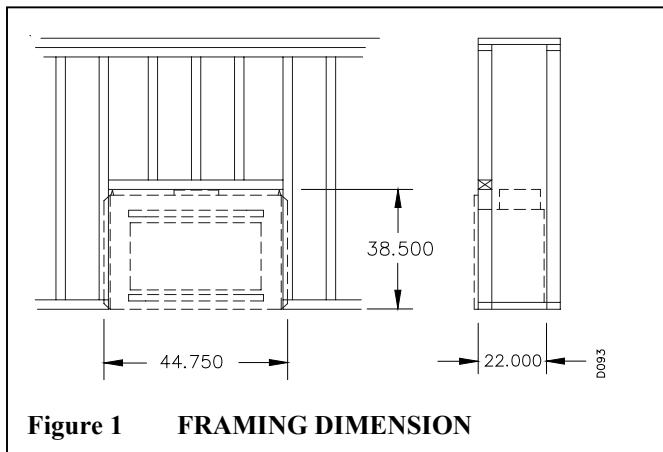

Figure 1 FRAMING DIMENSION
- 1.) The location must allow for proper clearances (see figures 1 & 2).
STEP 1: Frame the opening for the fireplace using the dimensions shown in figures 1 & 2.